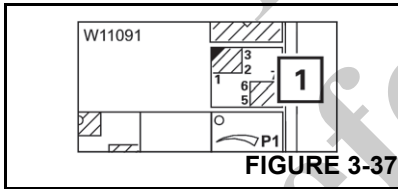

FIGURE 3-37
Press the button (1) (Figure 3-37) once.